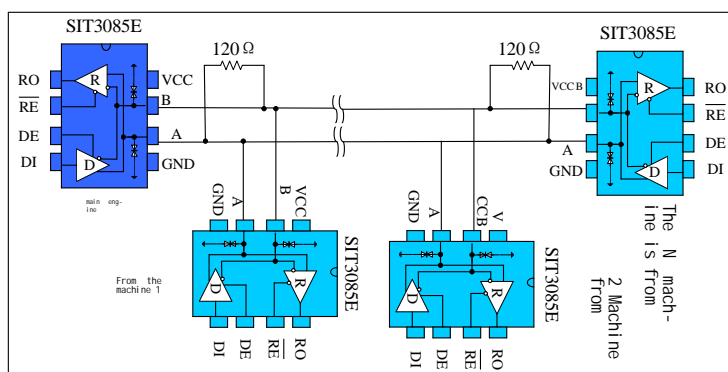

Figure 11 Bus type RS485 half-duplex communication network
5.1 Bus topology networking: SIT3085E RS485 transceivers are designed for bidirectional data communication on multi-drop bus transmission lines. Figure 11 shows a typical network application circuit. These devices can also be used as linear repeaters for cable lengths exceeding 4000 feet. To reduce reflections, termination matching at both ends of the transmission line should be performed with their characteristic impedance, and branch connections outside the main trunk should be as short as possible.